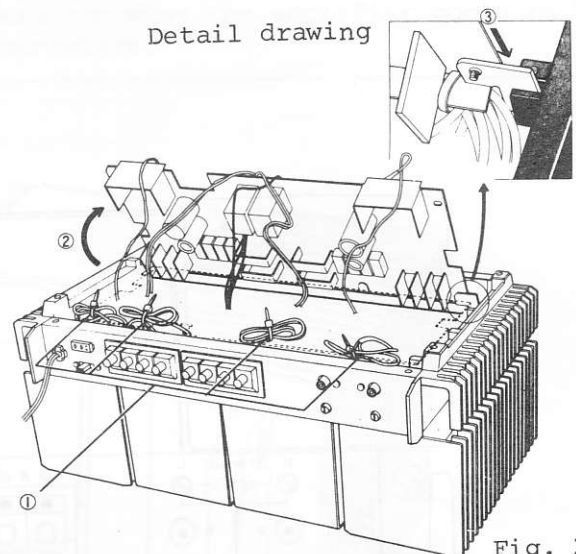

Fig. 2
### 2. Taking Out the Printed Circuit Board (Fig. 2)
- 3) Cut the clampers binding the lead wire with a nipper. (Refer to Fig. 2-(1))
- 4) Lift the printed circuit board in the direction as shown in Fig. 2-(2).
- 5) Hold it into the gap of the radiator as shown by the numbered arrow (3) of Fig. 2.